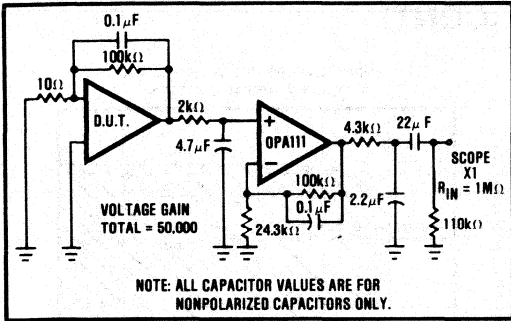

FIGURE 1. 0.1Hz to 10Hz Noise Test Circuit.
NOTES: (1) Measured with industry-standard noise test circuit (Figures 1 and 2). Due to errors introduced by this method, these current noise specifications should be used for comparison purposes only. (2) Offset voltage specifications on grades A and E are guaranteed with units fully warmed up. Grades B, C, F, and G are measured with automatic test equipment after approximately 0.5 second from power turn-on. (3) Unnulled or nulled with  $8\text{k}\Omega$  to  $20\text{k}\Omega$  potentiometer. (4) Long-term voltage offset vs time trend line does not include warm-up drift.